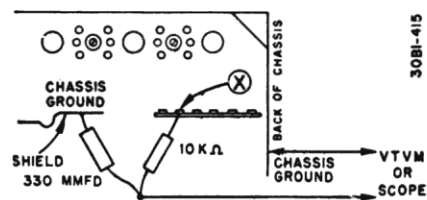

Fig. 3-11. VTVM or Scope Connections.
- Connect RC filter of 10,000 ohm resistor and 330 mmfd. condenser in series from point "X" to chassis. See figure 3-11. Leave connected for all steps in this alignment.